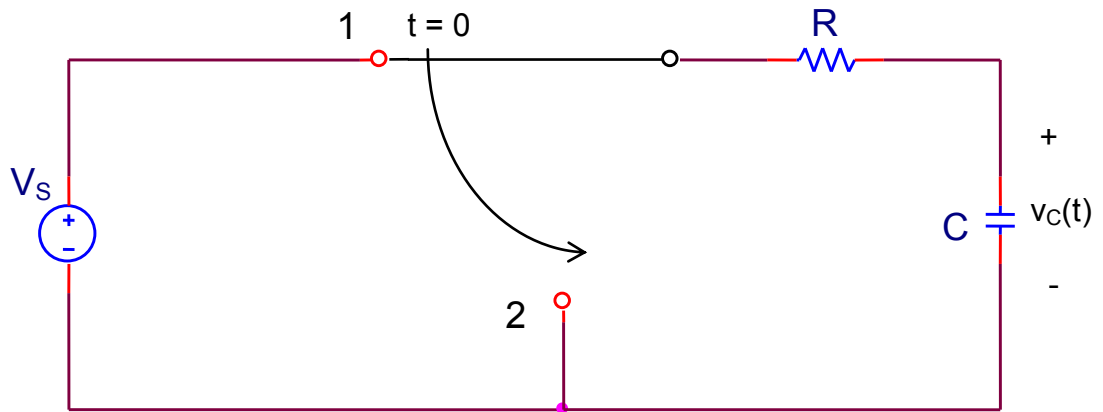

Figure 7.4
2. At $t = 0$, the switch in Figure 7.4 is moved from position 1 to position 2. Find and sketch, $v_C(t)$, $t \geq 0$.